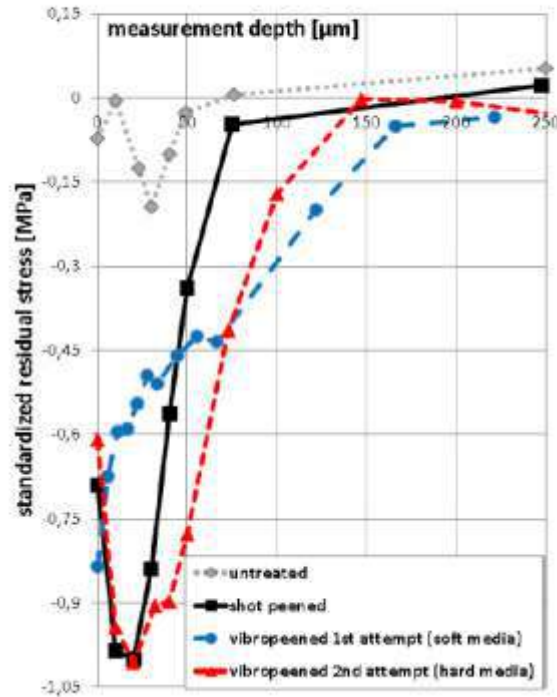

Fig. 6: comparison of residual stress distributions [2]
**Residual Stress Profiles:** All of the above mentioned technologies are inducing residual compressive stresses (RCS), the standardized profiles are shown in Fig. 6. Shot peened shows high surface RCS, a RS maximum in 25 µm depth and an influence depth of about 80 µm. The 1st vibropeening attempt with soft media shows high surface RCS with a continuous decrease to an influence depth of about 150 µm. This is mainly generated by the unfavorable pairing between component and media hardness which leads to a shifting of the generated RCS by plastically deformation and hertzian pressure. [6, 8] The 2nd vibropeening attempt shows surface RCS almost equal to shot peening with a bellied distribution in a depth of 25 µm equal to shot peening. The influence depth is higher than shot peening and lays about 150 µm.